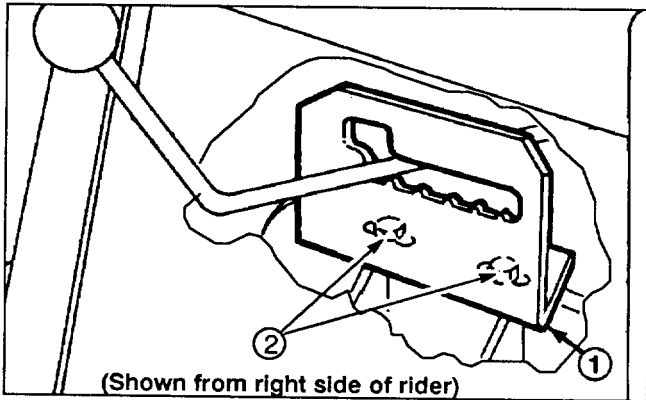

Figure 34
2. Loosen (2) capscrews mounting gear shift guide to transmission (Fig. 34).